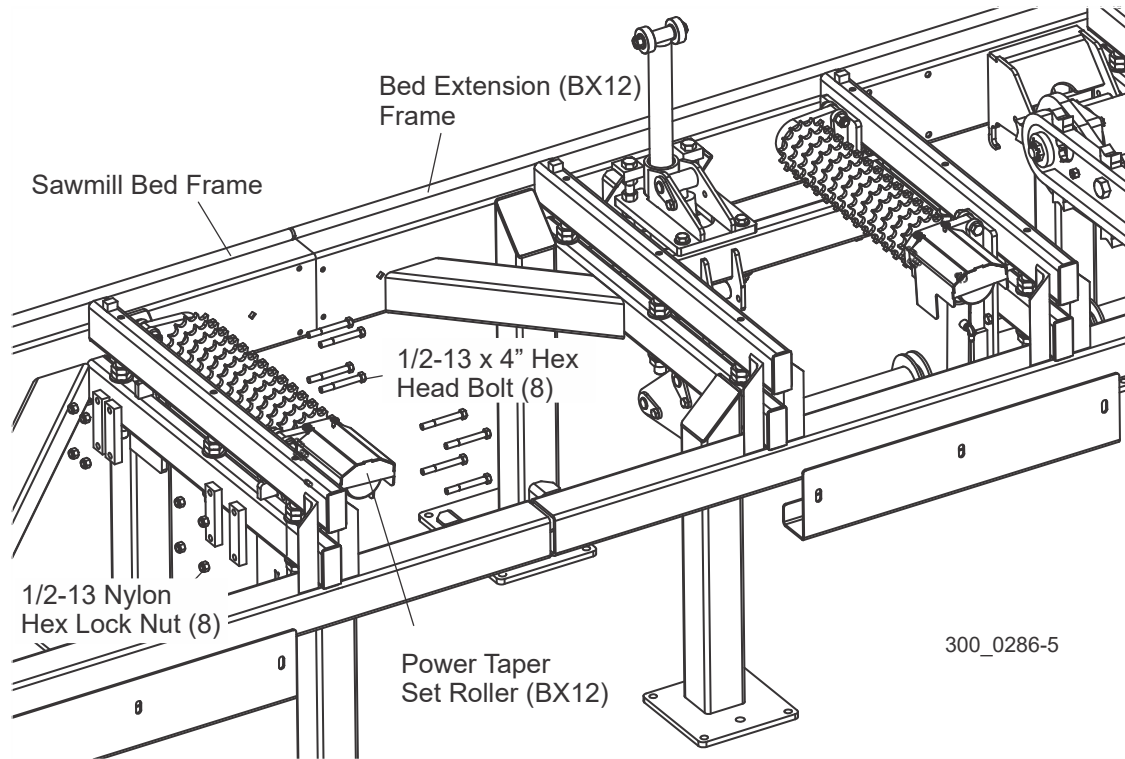

FIG. 3-9
1. Install the power taper set roller to the first bed rail on the sawmill bed as shown in Figure 3-9.
See Figure 3-9.